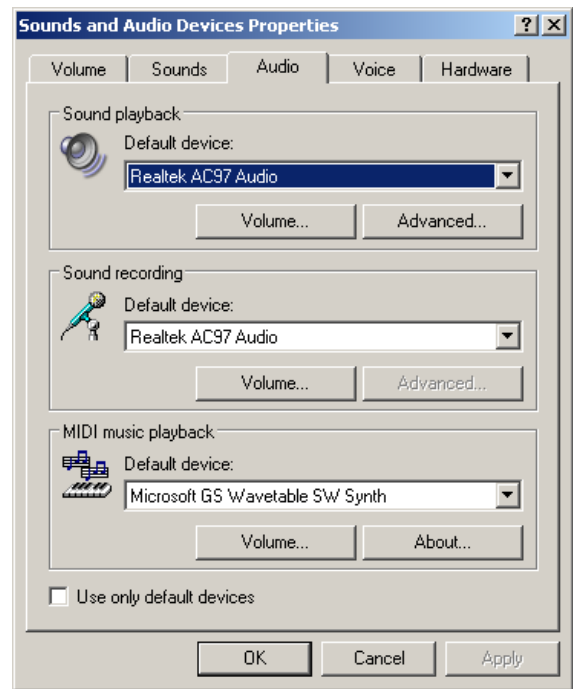

Figure 1 - Sound and Audio Devices Properties
- A “Sounds and Audio Devices Properties” window will open. This window will look similar to the one shown below in Figure 1.